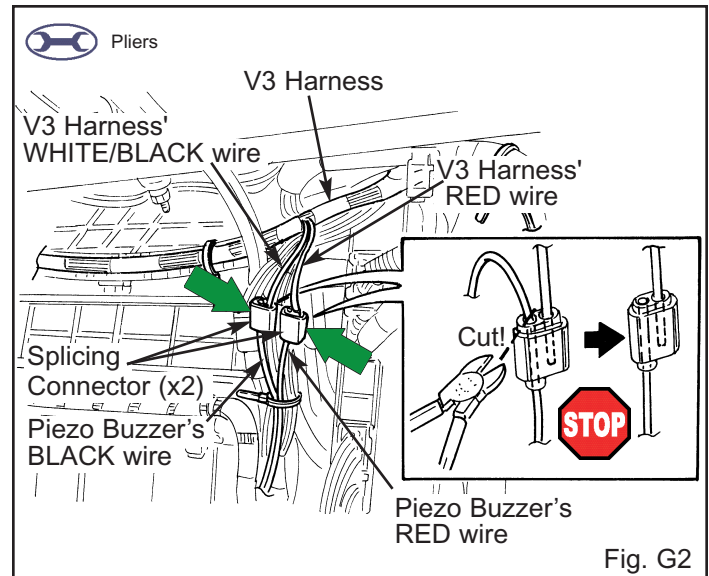

Fig. G2
2. Attach the V3 harness' RED wire to the piezo buzzer's RED wire with one splicing connector. (Fig. G2)
3. Attach the V3 harness' WHITE/BLACK wire to the piezo buzzer's BLACK wire with one splicing connector. (Fig. G2)
4. Cut off the excess piezo buzzer's RED and BLACK wires. (Fig. G2)